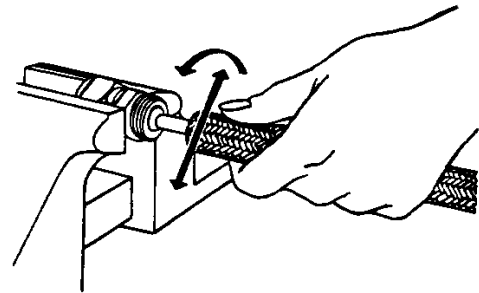

Figure 14 - Size Tube And Flare Braid
- Step 3. Size tube and flare braid. Place nipple hex in vise. Push end of hose onto the nipple and work gently to aid in separating the wire braid from the tube. (See Figure 14.) Remove hose from nipple.